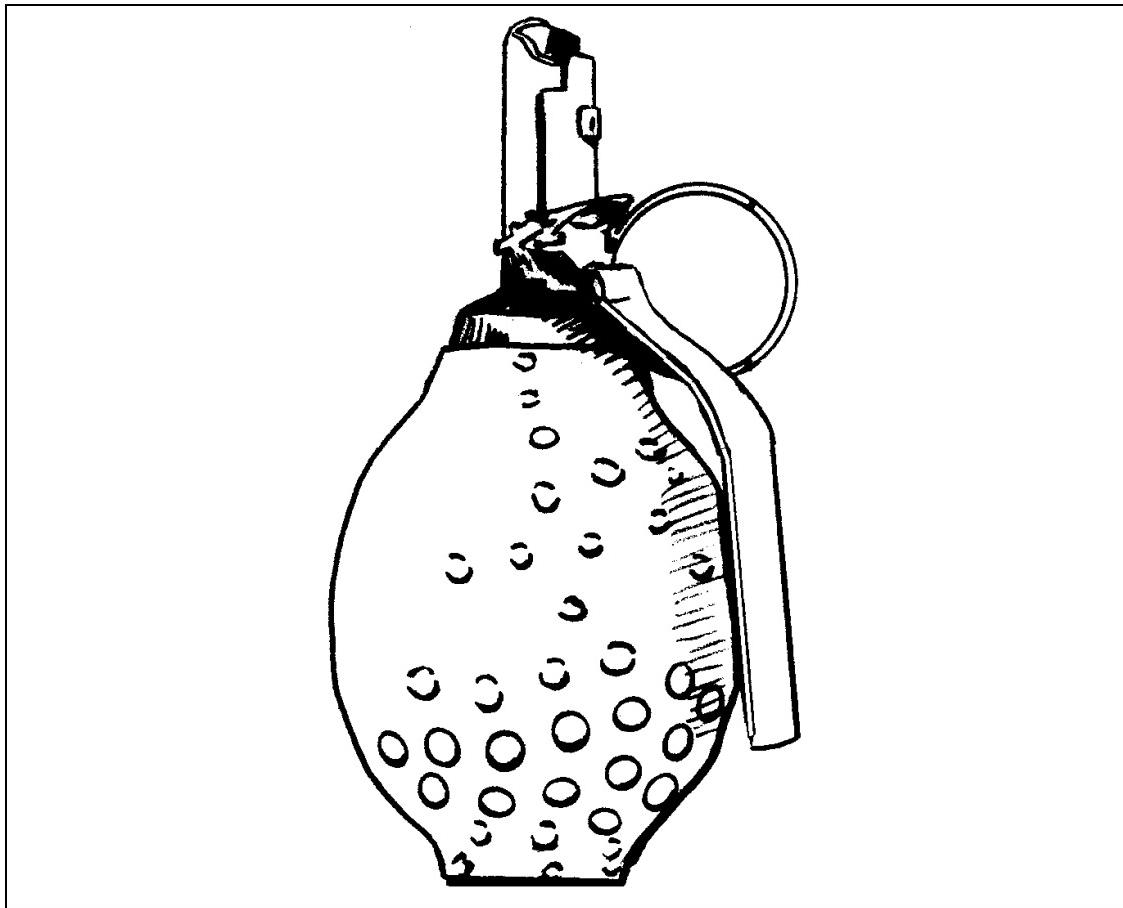

Figure D-9. North Korean fragmentation grenade (round).
- Type: Fragmentation. (Figure D-9)